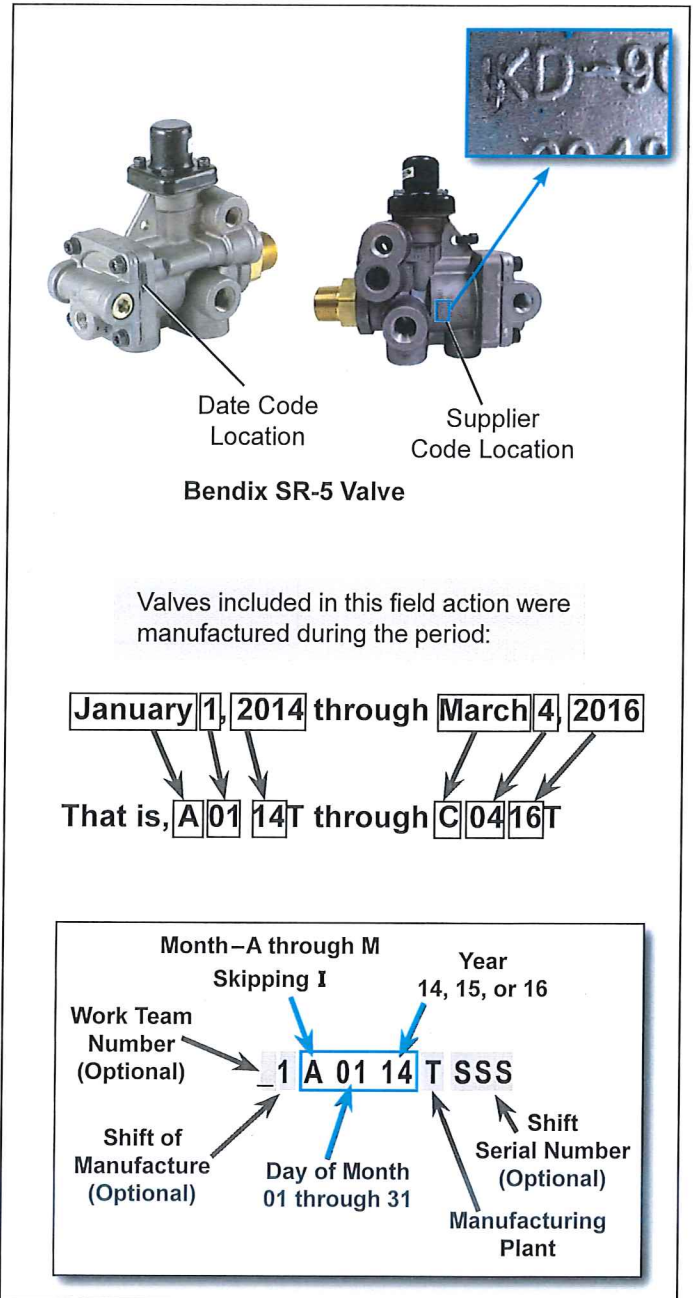

Figure 9 – Recall Identification
1. The supplier code—"IKD"—located as shown in Figure 9; *and*